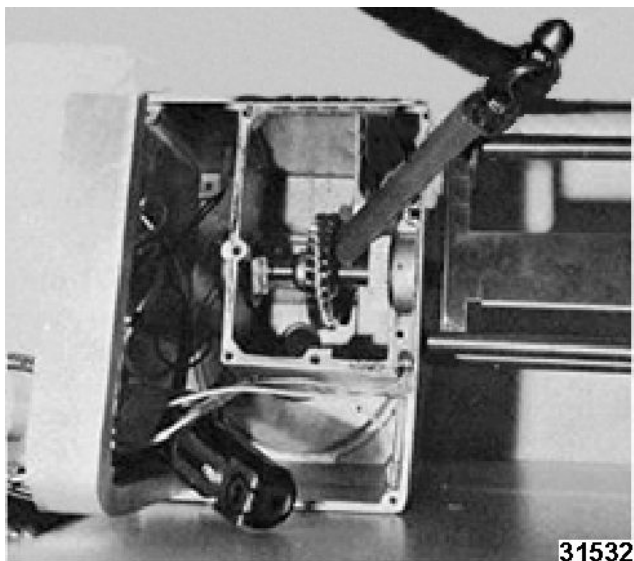

Fig. 37
- 2) Use a flat punch and tap the worm gear free of the Woodruff key (Fig. 37). Remove the key and worm gear from the shaft.